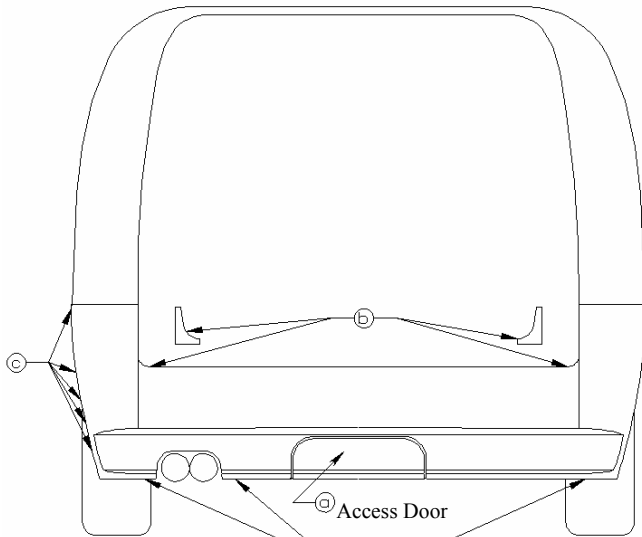

FIGURE 1
1. Remove rear fascia as shown in **Figure 1**: